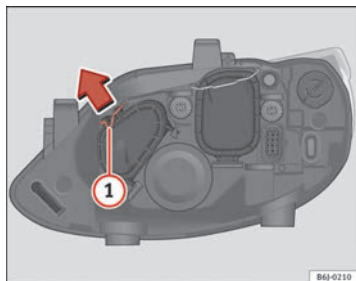

Fig. 159 Main beam headlights
- Move the loop ① in the direction of the arrow and remove the cover ⇒ Fig. 159.